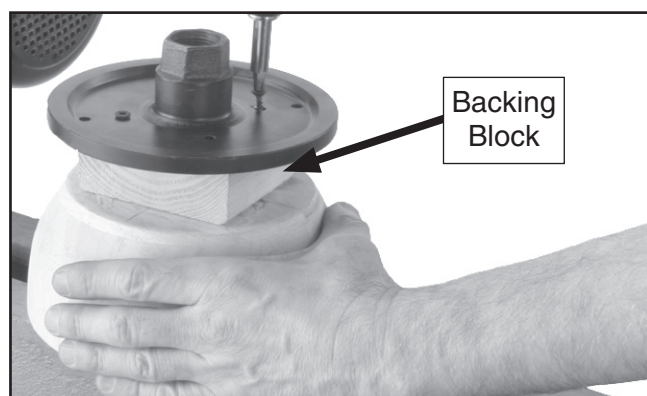

Figure 19. Example of backing block mounting.
1. Make the backing block (**Figure 19**) from a piece of scrap wood that is flat on both sides.